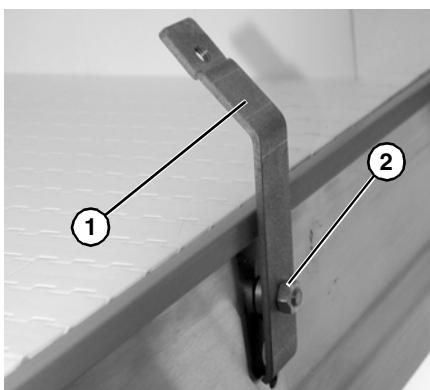

Figure 15
2. Attach the guide mounting brackets (**Figure 15, item 1**) to the conveyor with hex nuts (**Figure 15, item 2**). Hand tighten only at this time.